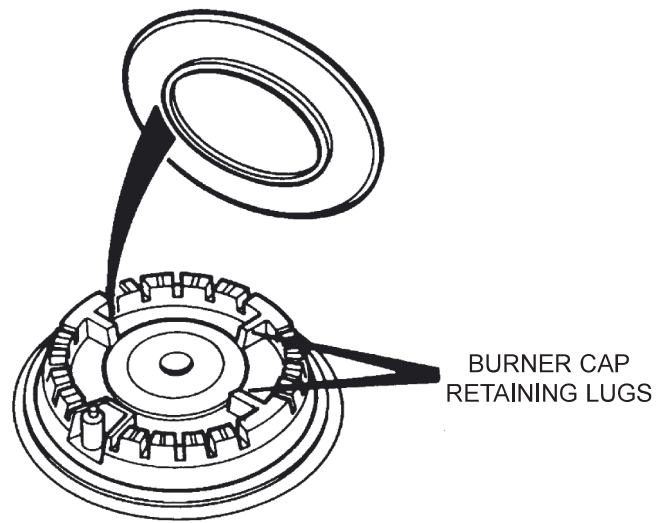

Fig 8A
12. Replace module hotplate. Reassemble in reverse order (See section 4). Ensure burner heads and burner caps are correctly located (See Fig. 8A, 8B and 8C) and electrodes are not damaged.
7. Re-assemble in reverse order, ensuring burner heads and burner caps are correctly located and electrodes are not damaged. (See Figs. 8A, 8B and 8C).